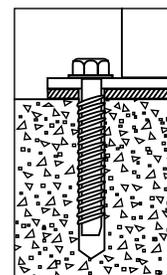

Figure 15
7. Insert the four concrete Wedge-Bolt Anchors into holes located on the corners of the bottom plate. Begin tightening the Wedge-Bolt Anchors by rotating clockwise and applying pressure in toward the base. This will engage the first few threads as the Wedge-Bolt Anchors begin to advance. Continue to tighten until the head of the Wedge-Bolt Anchor is firmly seated against the post mount (Figure 15).